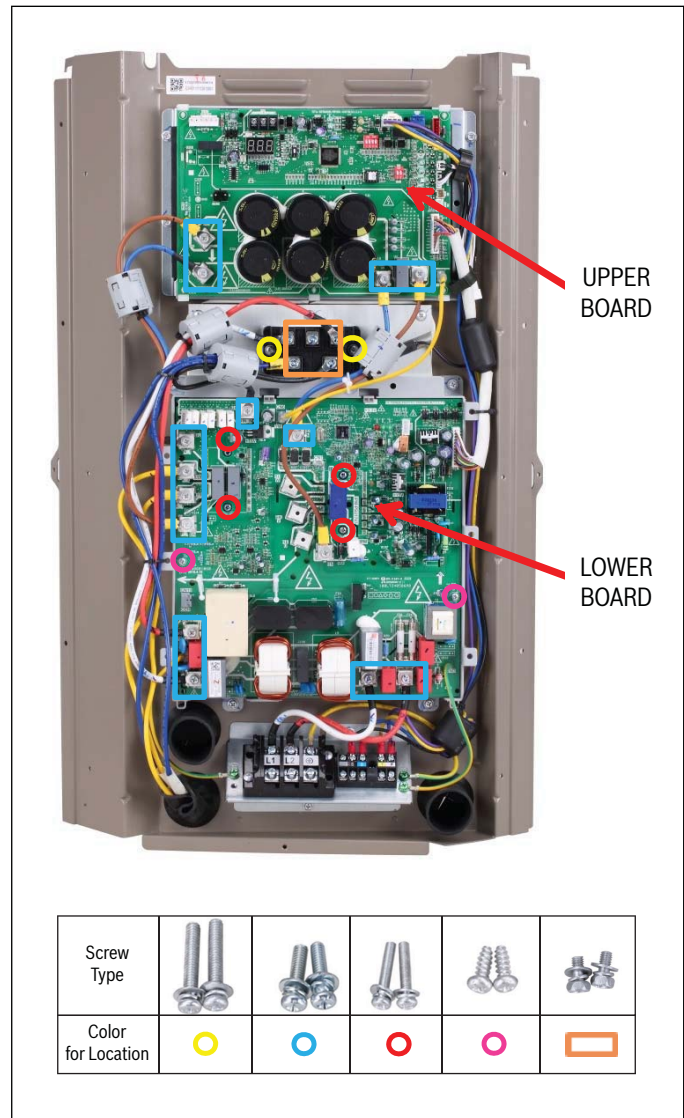

Figure 4
3. If replacing the upper board, hold the clips and remove the board (refer to Figure 4).
9. Reinstall the 6 screws (refer to figure 4).